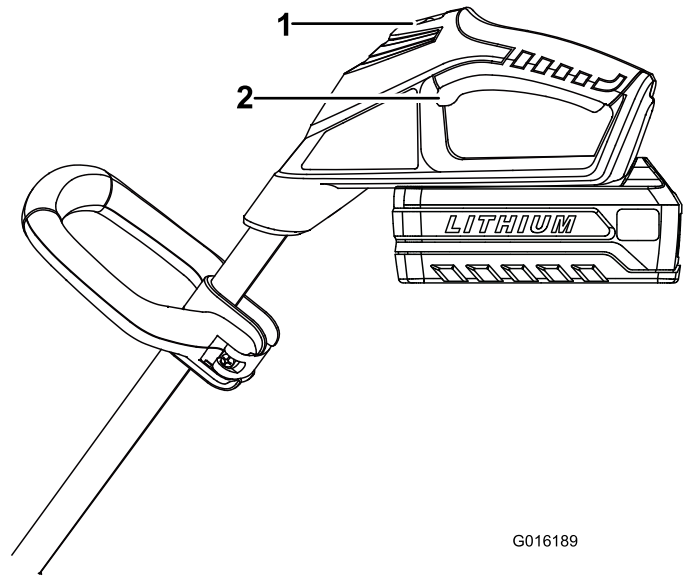

Figure 7
4. To start the trimmer, slide the lock switch back, then squeeze the trigger (Figure 7).